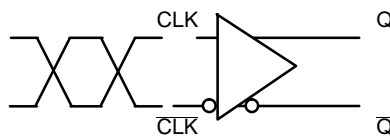

Figure 7. Differential Inputs Driven Differentially
**DIFFERENTIAL INPUTS DRIVEN DIFFERENTIALLY** (Figures 7, 8)